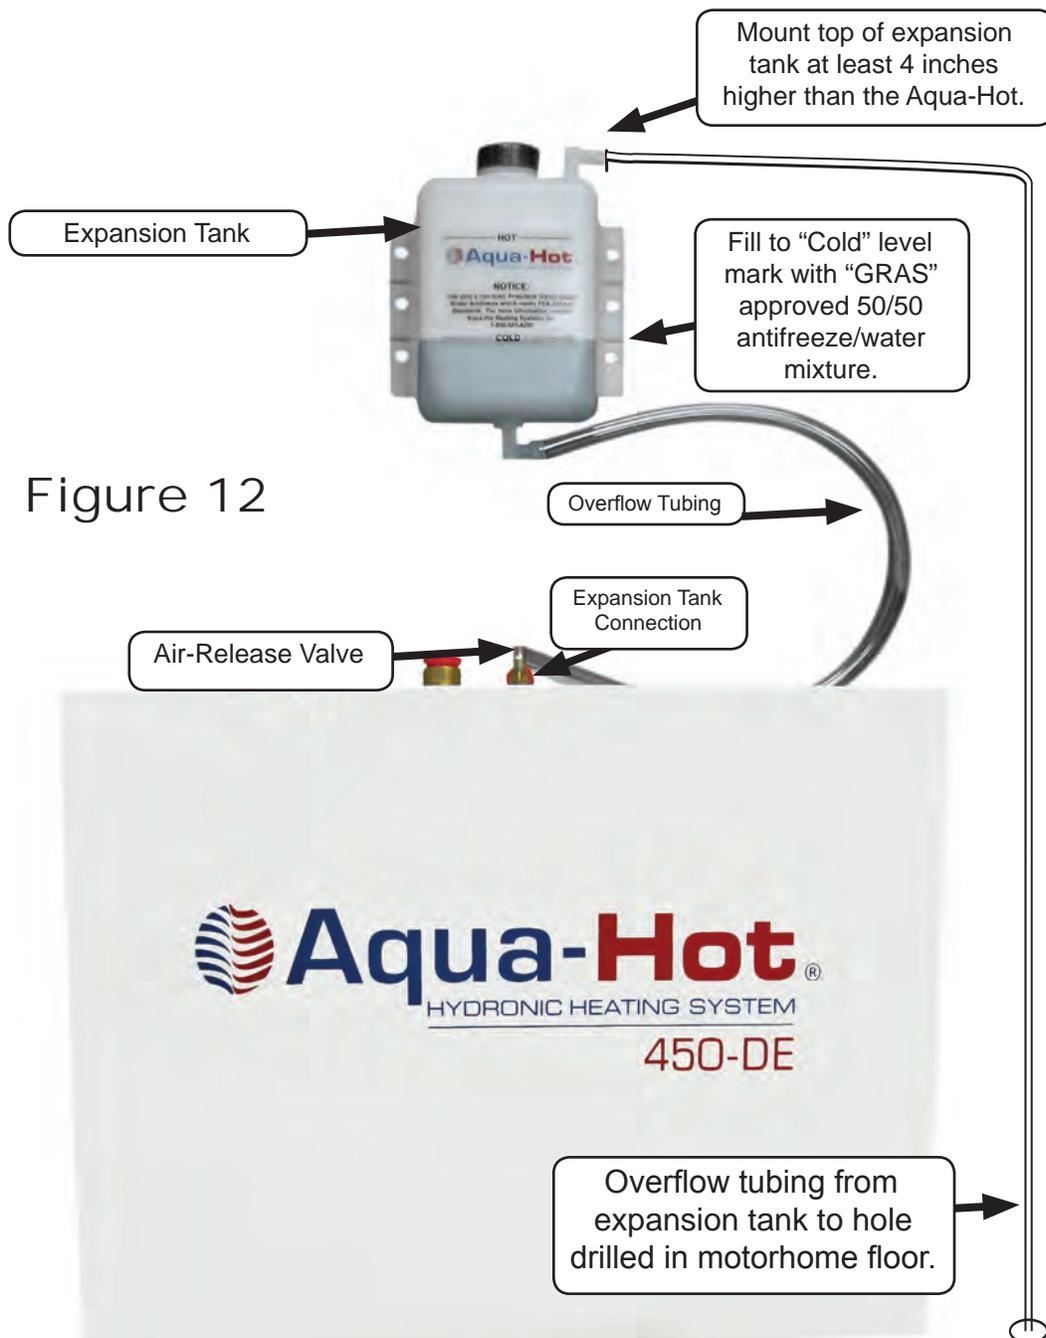

Figure 12
**NOTE:** The top of the expansion tank should always be mounted at least 4 inches higher than the highest point on the Aqua-Hot. Reference Figure 12.
1. Mount the expansion tank as illustrated in Figure 12.
2. Connect and clamp the overflow tubing from the expansion tank to the Aqua-Hot's expansion tank connection. Reference Figure 12.